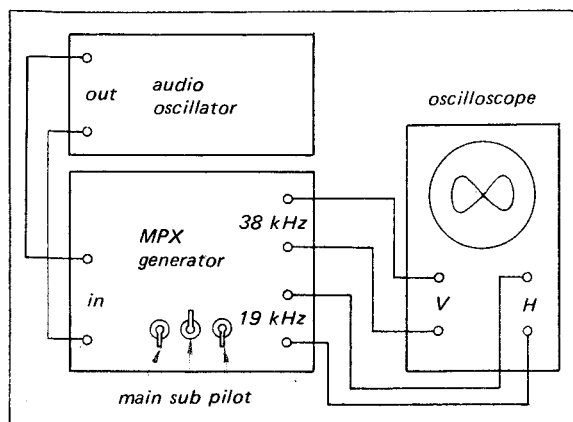

Fig. 3-6 MPX generator preadjustment setup
- (1) With the equipment connected as shown in Fig. 3-6, set the MPX and audio signal-generator's controls as follows: